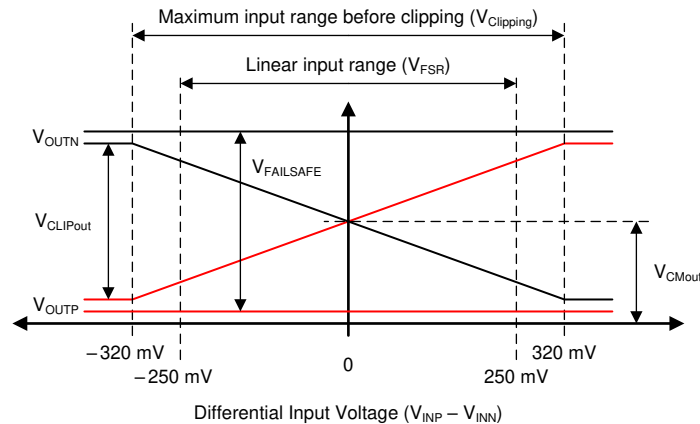

Figure 6-2. Output Behavior of the AMC3301
The AMC3301 offers a differential analog output comprised of the OUTP and OUTN pins. For differential input voltages ($V_{INP} - V_{INN}$) in the range from -250 mV to $+250\text{ mV}$, the device provides a linear response with a nominal gain of 8.2. For example, for a differential input voltage of 250 mV , the differential output voltage ($V_{OUTP} - V_{OUTN}$) is 2.05 V . At zero input (INP shorted to INN), both pins output the same common-mode output voltage V_{CMout} , as specified in the Electrical Characteristics table. For absolute differential input voltages greater than 250 mV but less than 320 mV , the differential output voltage continues to increase in magnitude but with reduced linearity performance. The outputs saturate at a differential output voltage of $V_{CLIPout}$ as shown in Figure 6-2 if the differential input voltage exceeds the $V_{Clipping}$ value.
The AMC3301 provides a fail-safe output that simplifies diagnostics on system level. Figure 6-2 shows the fail-safe mode, in which the AMC3301 outputs a negative differential output voltage that does not occur under normal operating conditions. The fail-safe output is active in two cases:
- The low-side does not receive data from the high-side (for example, because of a loss of power on the high side). In this case, the amplifier outputs are driven to the V_{FAILSAFE} value that is shown in Figure 6-2.
- The high-side DC/DC output voltage (DCDC_OUT) or the high-side LDO output voltage (HLDO_OUT) drop below their respective undervoltage detection thresholds (brown-out). In this case, the low-side may still receive data from the high-side but the data may not be valid. The amplifier outputs are driven to the V_{FAILSAFE} value that is shown in Figure 6-2.